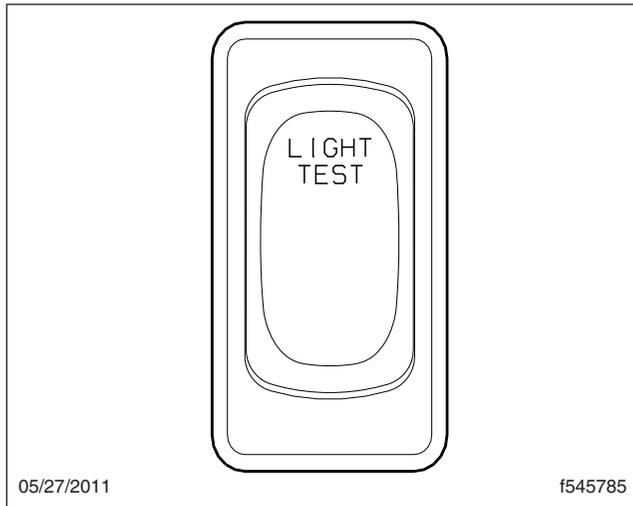

Fig. 12.7, Pretrip Light Inspection Switch
- 15.3 Press the pretrip inspection switch on the dash, shown in Fig. 12.7, to begin the pretrip light inspection.